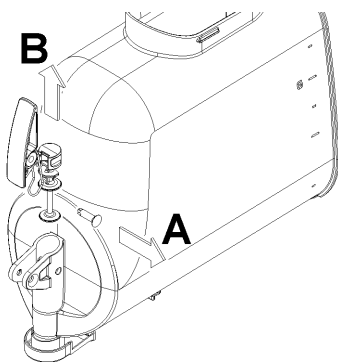

figure 14
5 Disassemble the tap by following the order given (see figure 14).
**3** Reassemble the tap on the container in reverse order compared to that shown in figure 14.